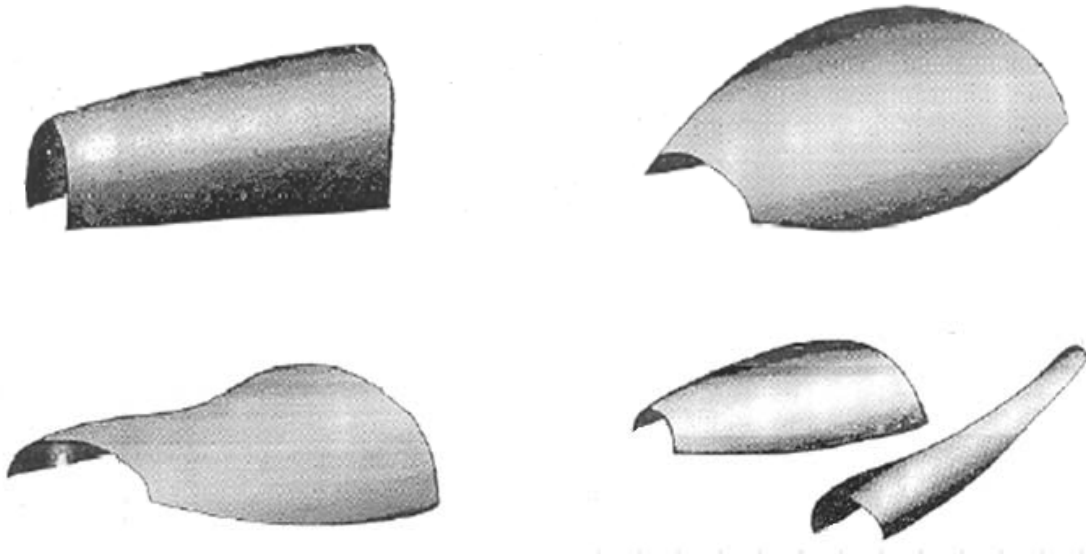

Figure 4 - Sheetmetal Industry Product
- (a) Sheetmetal industry has undergone a tremendous evolution; **Figure 4** 'Sheetmetal Industry Product' shows one of the latest concepts in the industry. Write a short essay describing the concept, usage and applications.